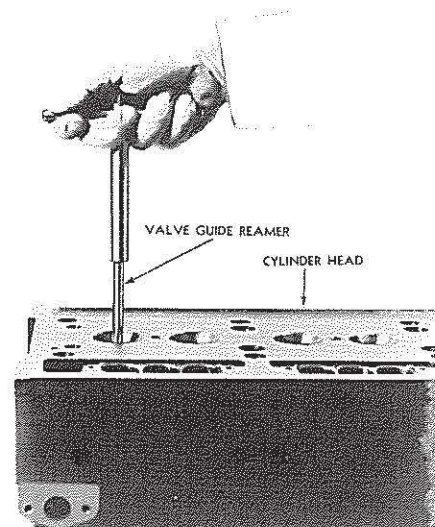

FIG. 15
2. To install valve guide, drive in from bottom of cylinder head with driver and then ream with special reamers shown in Fig. 15.